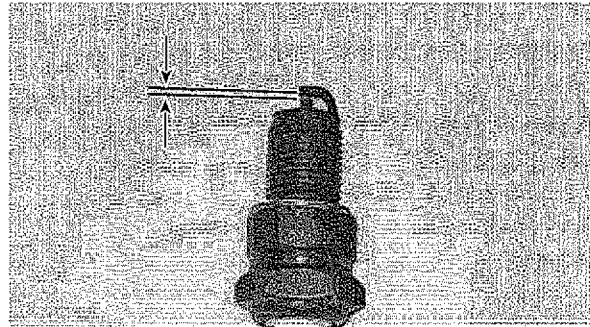

Figure 67 – Spark Plug Gap Requirements
- Spark plug gap (the acceptable limit of 0.024 – 0.032 in. [0.60 – 0.80 mm]) (see Figure 67).